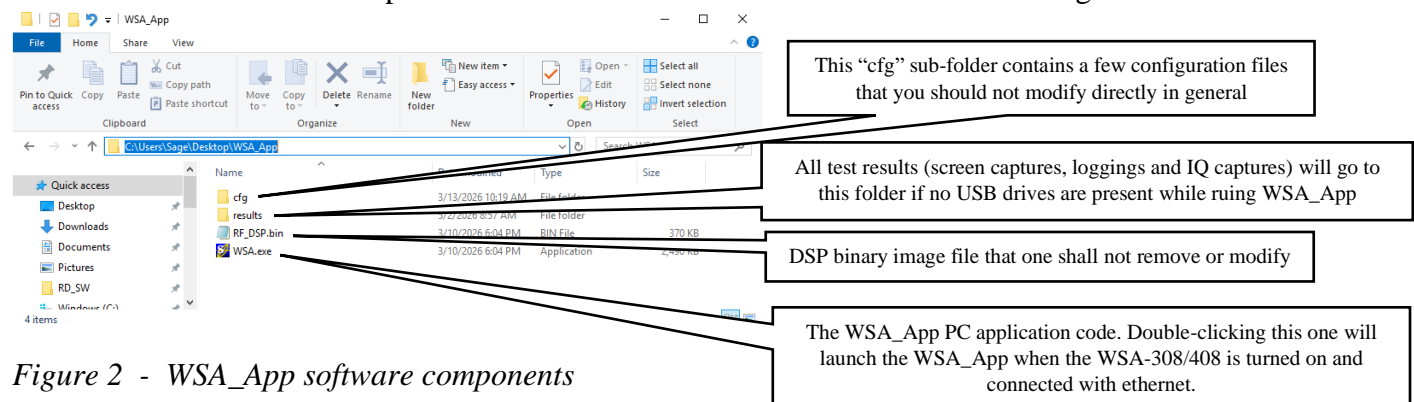
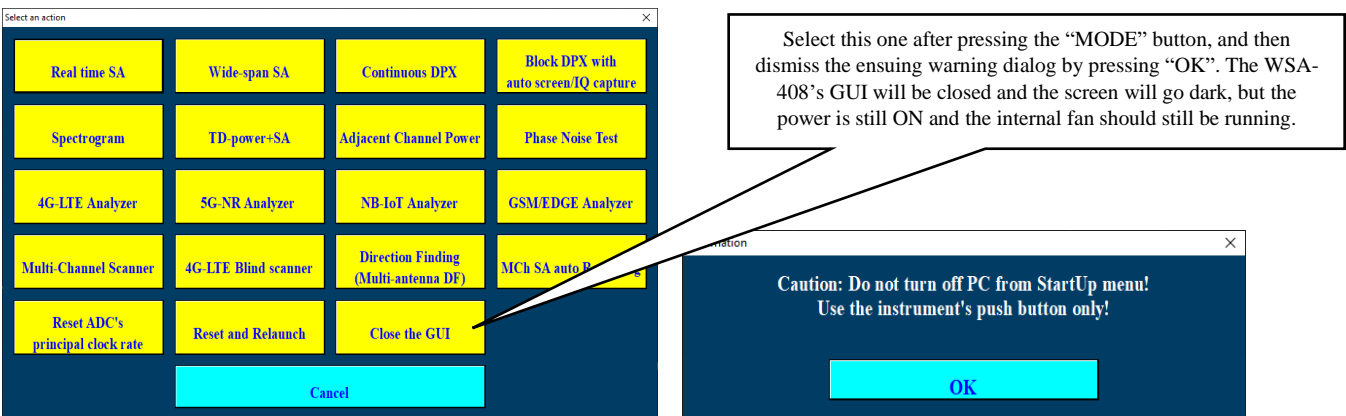
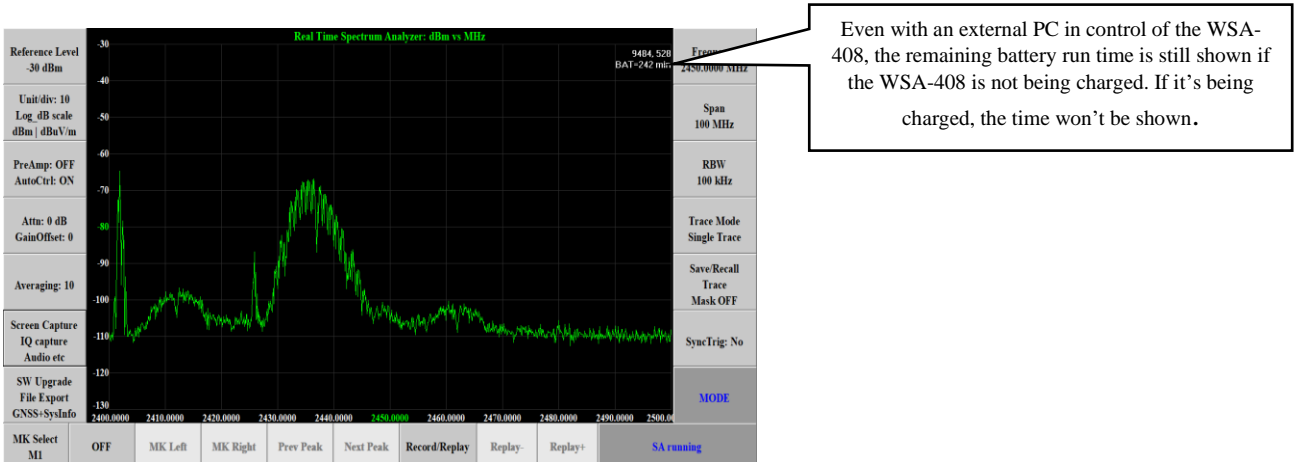

Figure 2 - WSA_App software components
Figure 3 - Steps to close the GUI on a WSA-408 in order for an external PC to take control of it
Figure 4 - When controlling a WSA-408 through the WSA_App on a PC, the GUI still displays the battery time as long as the WSA-408 is not being charged.
The "WSA_App" package does not need any elaborate installation procedures. Neither will it insert any weird files everywhere in your PC. All you need to do is to unzip (extract) the "WSA_App.zip" file from Sage Instruments. For simplicity, the "WSA_App.zip" file should be extracted onto a PC's Desktop and maintain the sub-folder structure as shown in Figure 2.
To run a WSA-308, just connect it with the PC via ethernet cable, power it ON, verify the network connections by “pinging”, and then launch the WSA_App by double-clicking “WSA.exe” as shown in Figure 2.
To control a WSA-408 from a PC that has “installed” the WSA_App as shown in Figure 2, you first need to close the GUI on the WSA-408 first. Press the lower right “MODE” button, you’ll see dialog as shown in Figure 3. Select “Close the GUI”. You’ll see the warning dialog shown at the right in Figure 3. Just dismiss it by pressing “OK”. After which, the WSA-408’s screen will totally go dark, but the power is still ON and the internal fan should still generate audible noise.
After the steps in Figure 3, and with proper ethernet cable connection between WSA-408 and the PC and proper network connection verification via “ping 192.168.24.5”, you can launch the “WSA.exe” as shown in Figure 2, and the PC is now in control of the WSA-408’s internal DSP, and the WSA-408 is now functioning like a WSA-308, with one minor difference as shown in Figure 4.
3. If no movable drives are found, the files will go to the “results\” sub-folder as shown in Figure 2. You can directly navigate to that folder to retrieve all the test results if you're running the “WSA_app” on a PC.